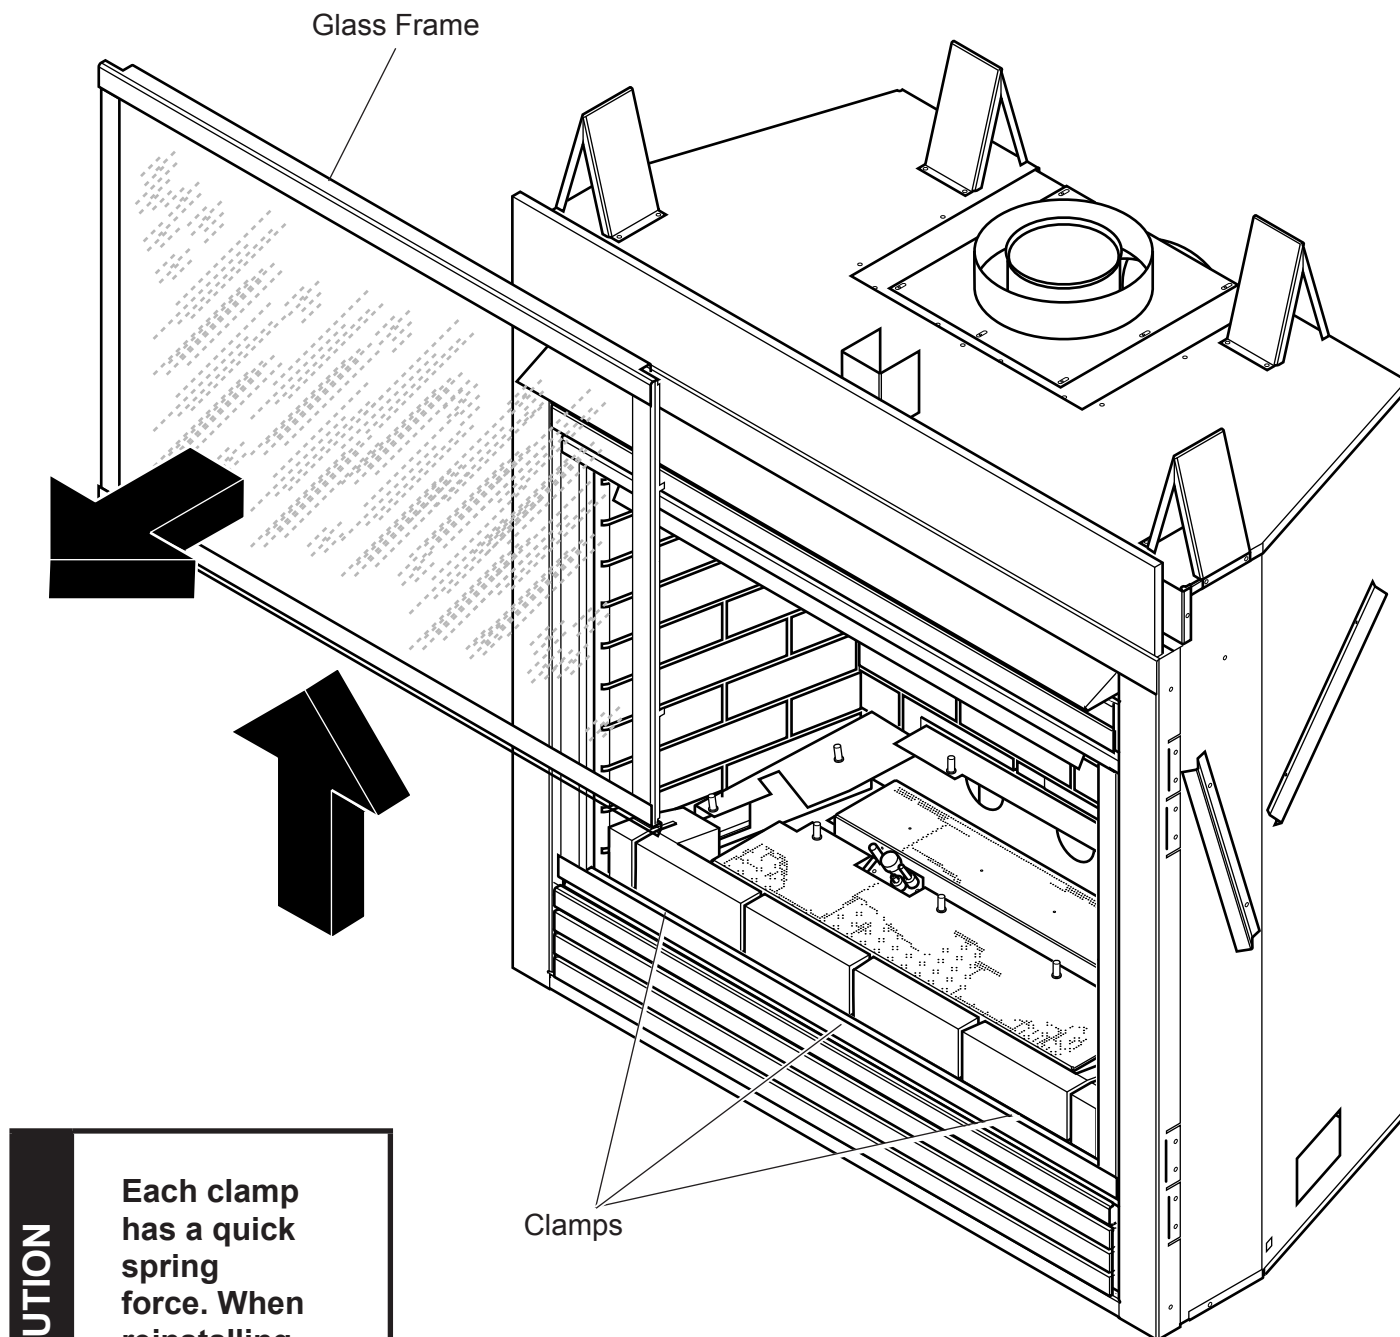

Figure 45 - Removing Glass Frame
2. Release three (3) clamps on bottom of fireplace. *See Figure 45.*